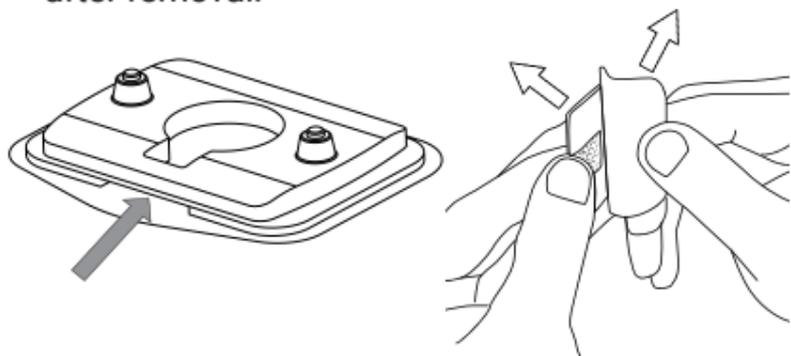

Figure 11. The electrode pad
2. Detach the plastic film on the bottom of the electrode pad (see Fig. 11). To remove the plastic
!! To remove the electrode pad, pinch it in the areas shown by the arrows in Fig. 11. Then, peel it back over itself, in the direction of hair growth. Peel slowly and progressively at an angle to the skin to avoid damaging the skin.